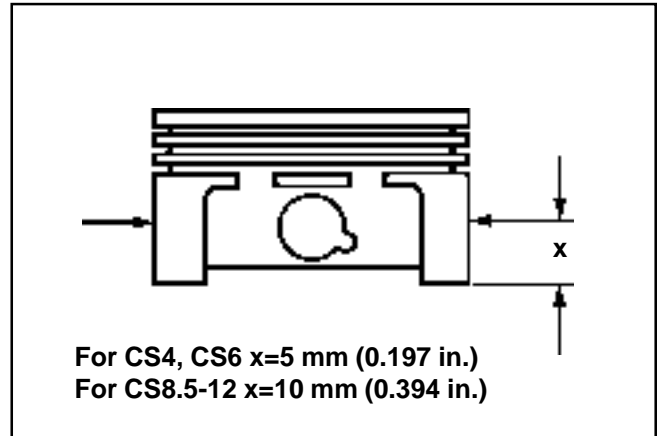

Figure 10-9. Measuring Piston Diameter.
1. Use a micrometer and measure the diameter of the piston at location indicated above the bottom of the piston skirt and perpendicular to the piston pin. See Figure 10-9.